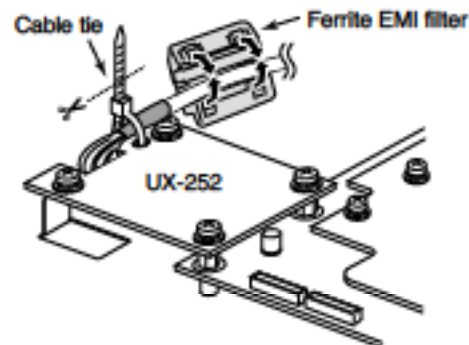
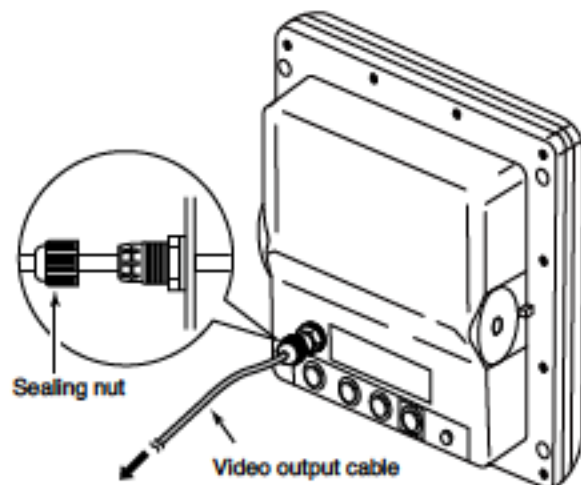

Fig. 5
Fig. 6
7. Secure the cable to the UX-252 with a cable tie. (Fig. 5)
8. Clamp the cable with the ferrite EMI filter attached near the UX-252. (Fig. 5)
- ① Be sure to clamp it tightly.
- ① Make sure the gasket is properly seated.
11. Adjust the video output cable length and then tighten the sealing nut. (Fig. 6)